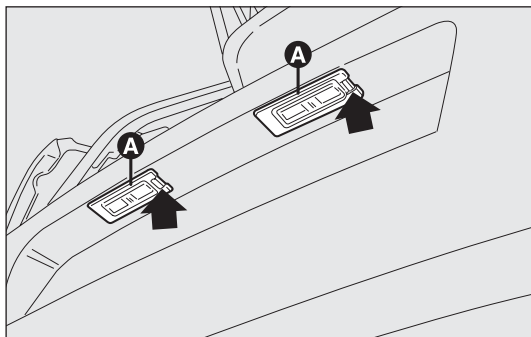

fig. 150
- ❑ act on the point shown by the arrow and remove the lens unit A-fig. 150;